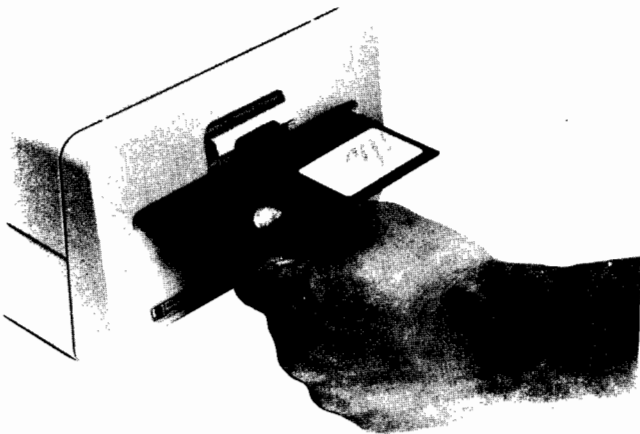

Figure 11-8. Inserting the Diskette into the Drive
1. Access the disc loading slot by pushing upward on the door latch (figure 11-8).